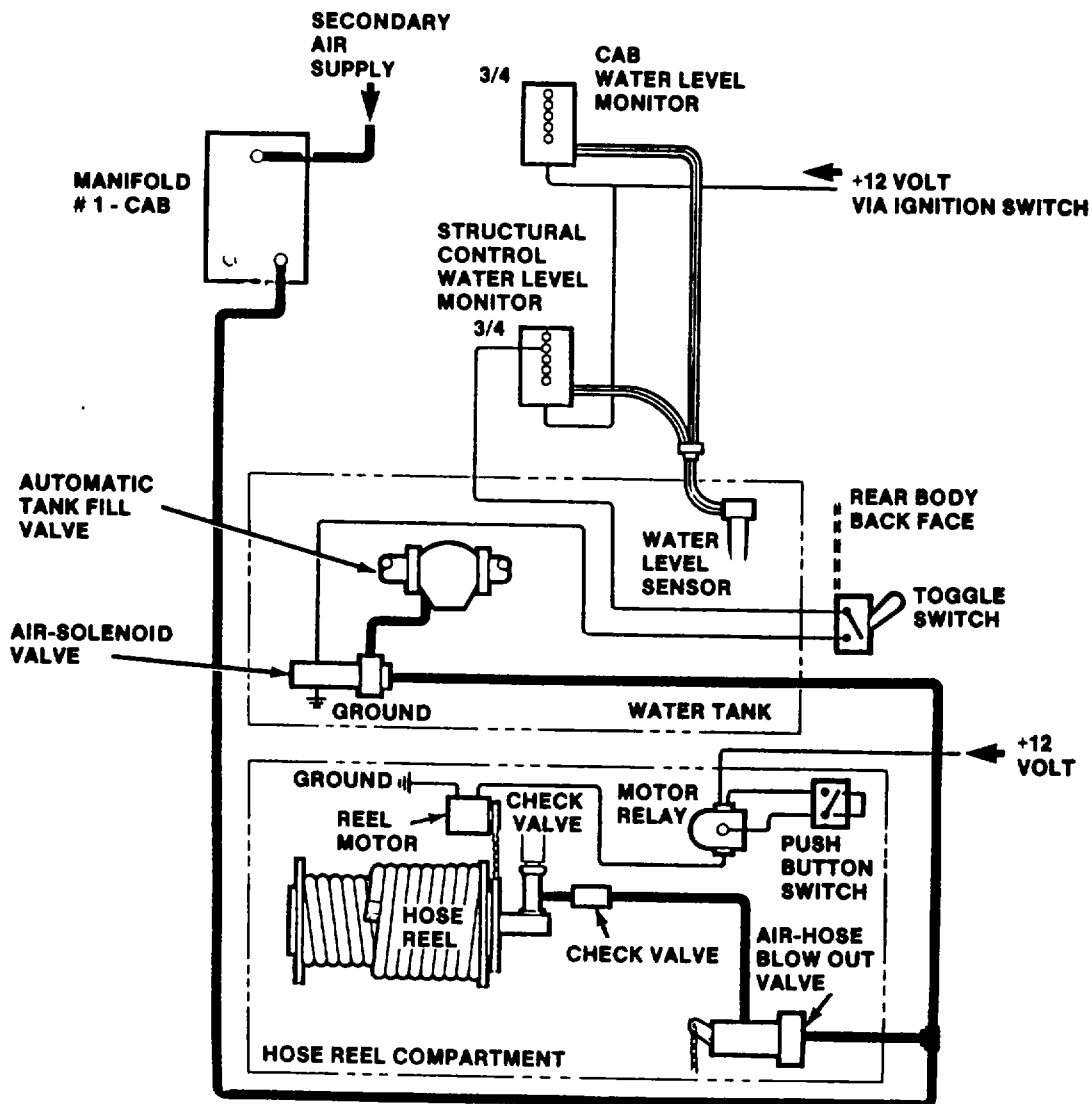

Figure 1-41. Hose Reel and Automatic Tank Fill Control
(1) The hose reel is provided with an electric motor drive to rewind the fire hose after use. The motor is energized via a motor relay actuated from a push button switch located externally on the rear body panel, (see fig. 1-41) A drain valve in the hose reel supply line enables draining of residual water after firefighting. Removal of residual water from the fire hose prior to rewinding is accomplished using the air blow-out valve.
(2) The rear tank fill port is equipped with an air-operated automatic tank fill valve. Air pressure to keep this valve closed is provided via a normally-open solenoid-controlled air valve. The solenoid is connected to the water level monitor 3/4 full indicator. It is energized when the switch is set to ON and the water level is below 3/4 full. When energized, air pressure to the automatic tank fill valve is shut off and the valve is open. The tank fill valve is closed whenever the switch is set to OFF or the tank level is at or above 3/4 full provided that air pressure is available.